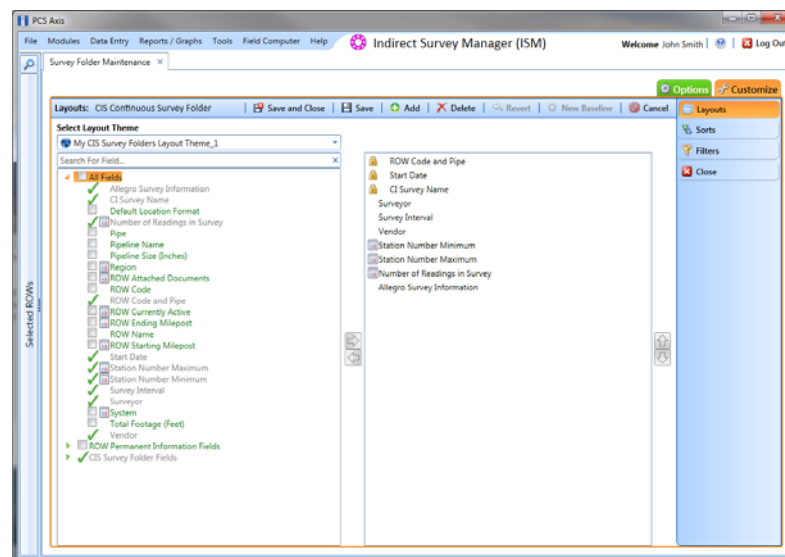

Figure 5-11. Layouts
- 8 Click  **OK** to save changes and return to the *Layouts* page (Figure 5-11).
NOTE: Fields with a lock icon  are required and cannot be removed from the theme, such as  **ROW Code and Pipe** shown in the previous example (Figure 5-11).